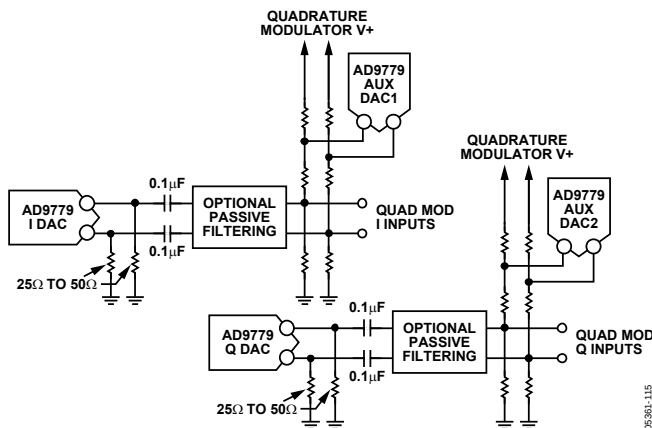
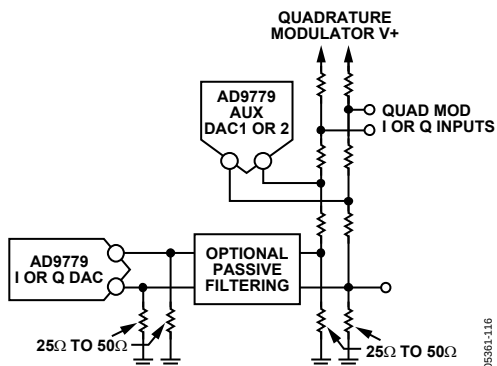

Figure 79. Typical Use of Auxiliary DACs AC Coupling to Quadrature Modulator
Figure 80. Typical Use of Auxiliary DACs DC Coupling to Quadrature Modulator with DC Shift
The auxiliary DACs can be used for local oscillator (LO) cancellation when the DAC output is followed by a quadrature modulator. This LO feedthrough is caused by the input referred dc offset voltage of the quadrature modulator (and the DAC output offset voltage mismatch) and can degrade system performance. Typical DAC-to-quadrature modulator interfaces are shown in Figure 79 and Figure 80. Often, the input common-mode voltage for the modulator is much higher than the output compliance range of the DAC, so that ac coupling or a dc level shift is necessary. If the required common-mode input voltage on the quadrature modulator matches that of the DAC, then the dc blocking capacitors in Figure 79 can be removed. A low-pass or band-pass passive filter is recommended when spurious signals from the DAC (distortion and DAC images) at the quadrature modulator inputs can affect the system performance. Placing the filter at the location shown in Figure 79 and Figure 80 allows easy design of the filter, as the source and load impedances can easily be designed close to 50 Ω .